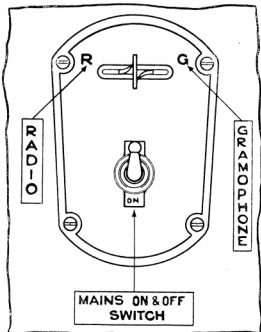

Fig. 3.
1. Set the "Radio-Gramophone" switch, which will be found at the right hand side of the cabinet, at that end of the slot nearest the front of the cabinet as indicated by the letter "R" (Radio) engraved on the metal escutcheon plate (see fig. 3).
2. Switch on the current to the receiver by depressing the knob of the "on and off" switch at the right hand side of the receiver as shown in fig. 3. A short period should be allowed for the indirectly heated A.C. valves to attain the correct operating temperature before attempting to receive signals.
Closing Down after Reception. When it is wished to discontinue reception, simply switch off the electric supply by raising the knob of the "on and off" switch at the side of the cabinet (Fig. 3).